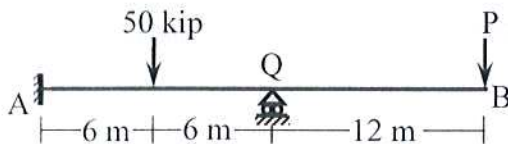

Fig.3
3. Analyze the Beam in Fig.3 by Force Method and determine the reactions. Consider the reaction at **Q** as the redundant [ $P= 68\text{-kips}$  for Even Rolls or  $P= 47\text{-kips}$  for Odd Rolls and  $EI=\text{Constant}$ ]. [14]